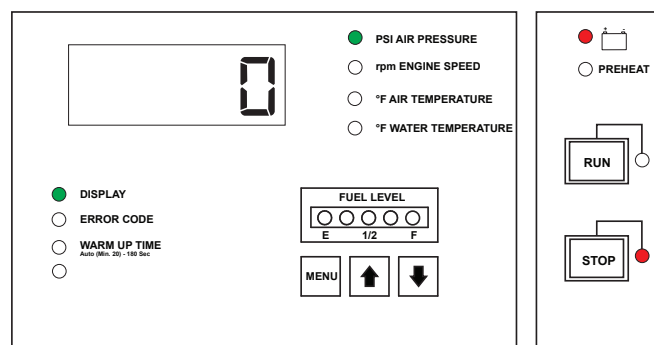

Figure 42. Pressure Adjustment
16. The 7-segment display will now read "0" and the **DISPLAY LED** will light up (Figure 42).